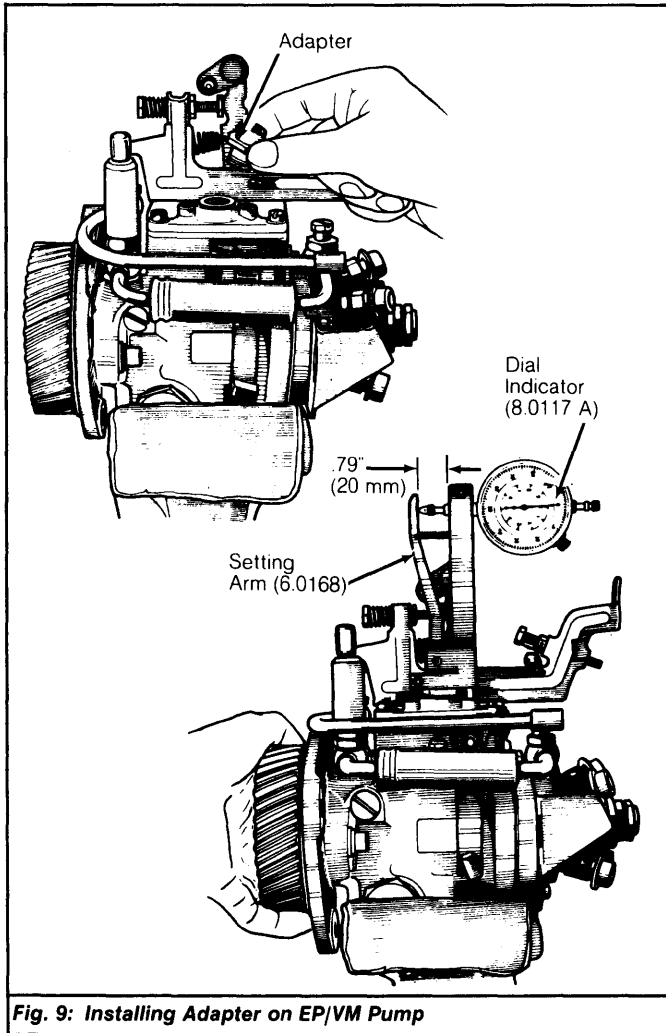

Fig. 9: Installing Adapter on EP/VM Pump
3) Install Dial Indicator (8.0117 A) onto top of setting arm. See Fig. 9. Check that spring loaded handle (which touches dial indicator) has free movement.